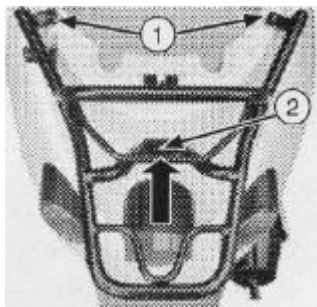

Fig. 28
LUGGAGE RACK (FIG. 28) -OPTIONAL EXTRA
1. Make holes in the rear fairing in the premarked point (2 -FIG. 28).
2. Use the screws supplied to fasten the rack to the rear fairing (1-2-FIG. 28).